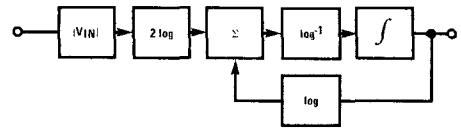

FIGURE 2. Implicit Computing Type RMS Converter
- 3. Implicit Computing.** This scheme is similar to the second one with the square root performed by feedback and the squaring done by log method. This method is illustrated in Figure 2.